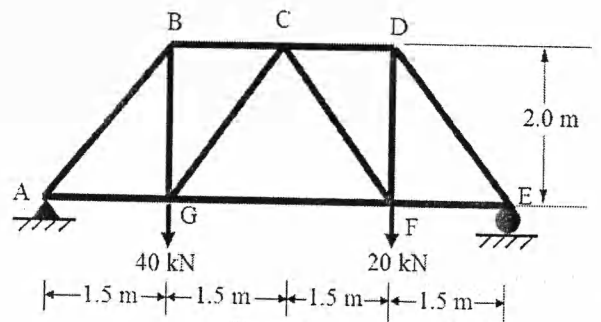

Figure 2
2. Determine the member forces of the given truss shown in Figure 2. Also State the nature of forces. (Show the results in tabular form). Draw clearly free body diagrams for each joints. [8]